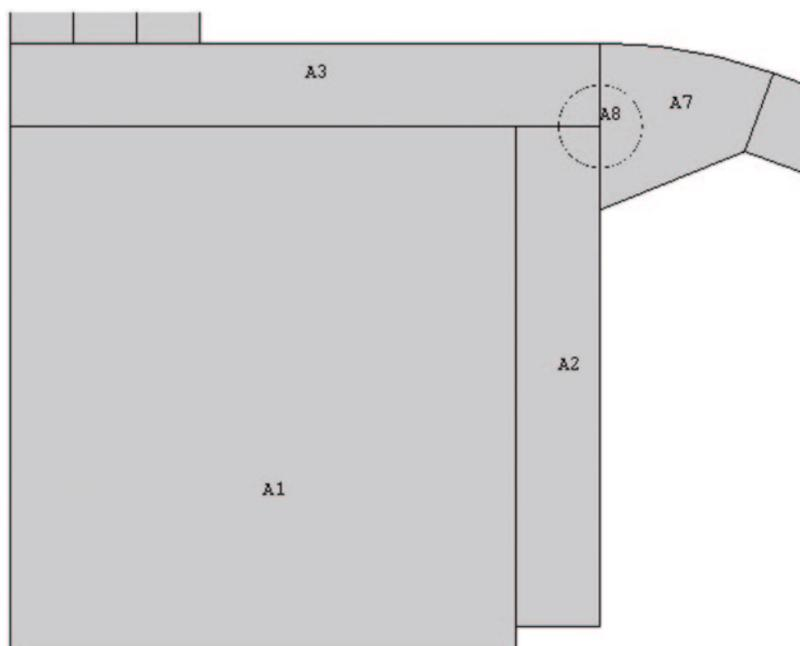

Fig. 9.36 Areas before overlapping
- Figures 9.36 and 9.37 show the areas before and after overlapping, respectively.